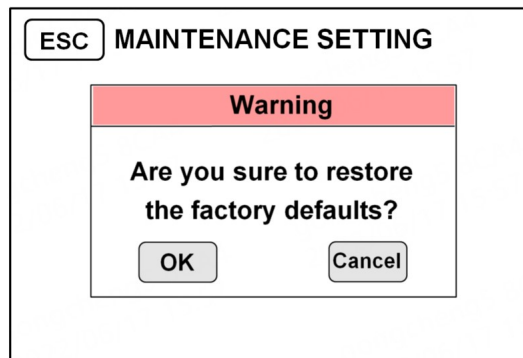

Figure 53
2) Touch the "2. Factory setting" key to enter the interface of restoring factory settings, as shown in Figure 53 below: